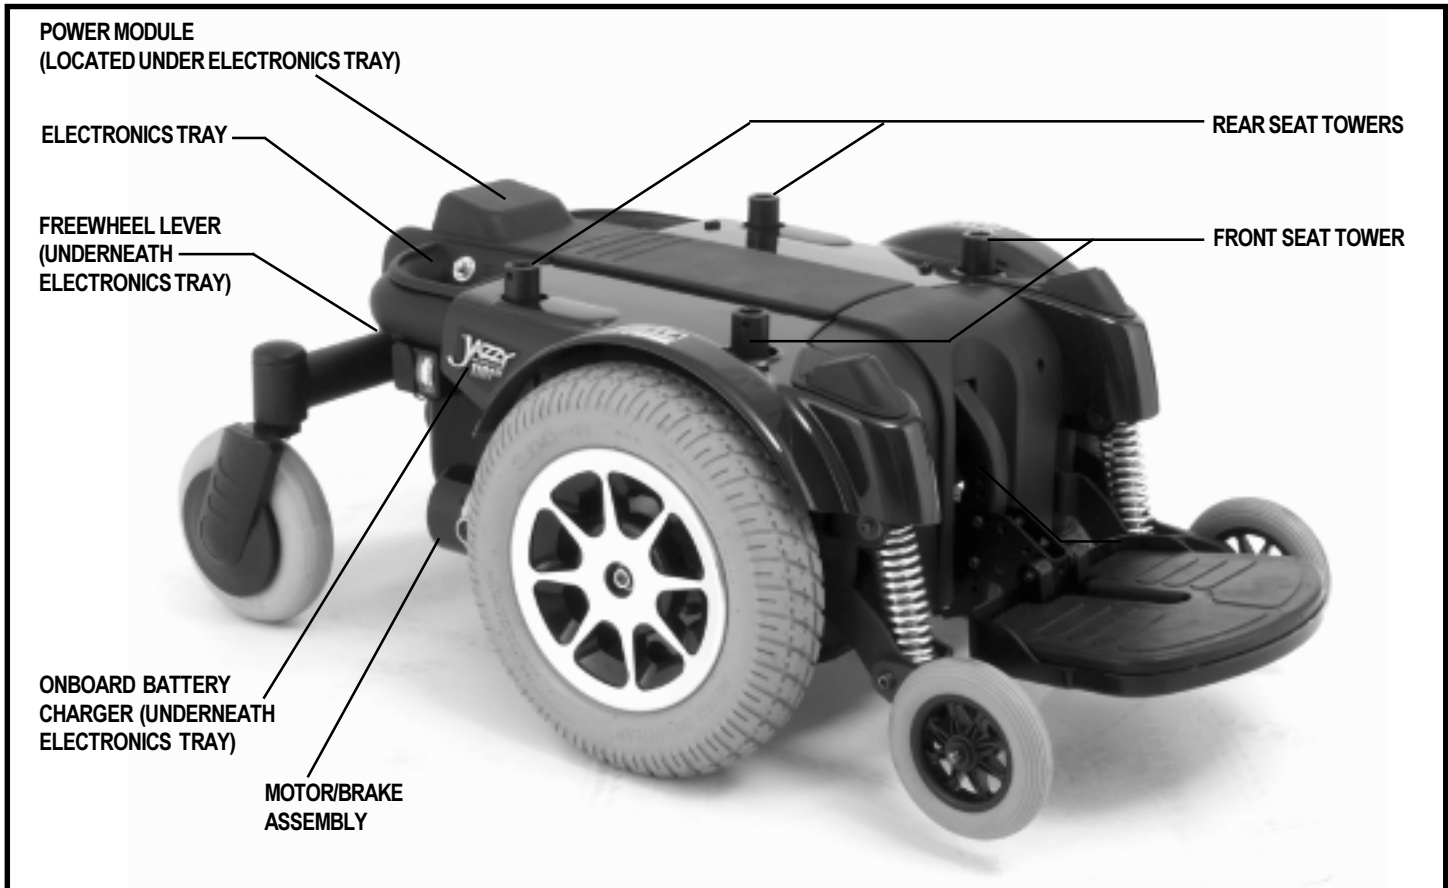

Figure 6. The Jazzy 1121 Power Base (1101 is similar.)
The electronics tray is located on the back of the power base. See figures 6 and 7. The ammeter, the onboard charger AC power cord, the main circuit breaker, the controller connector, and the charger fuse are all located on the electronics tray.
6. Plug the controller cable(s) into the connector on the electronics tray. See figure 6.
There are four steel towers that connect the seat to the power base. See figure 6. You can change the seat height to one of three positions in 1-in. increments by raising the seat towers. If you raise or lower only one set of seat towers (front or rear), you can also change the seat base angle. If your Jazzy is equipped with a power elevating seat, then you change the seat height through the controller or a switch.